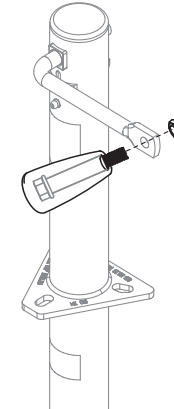

Fig. 1
5. As shown in Figure 1, insert the bolt and handle assembly into the hole on the end of the crank and secure it with the nut.